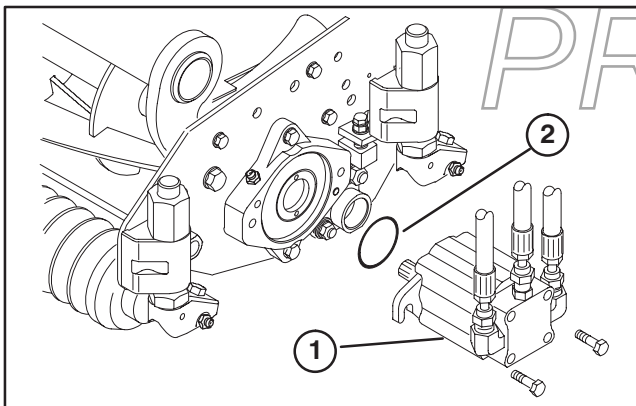

Figure 9
3. Cutting unit stabilizer ear (2)
14. Mount the motor to the drive end of the cutting unit and secure with two capscrews provided (Fig. 9).